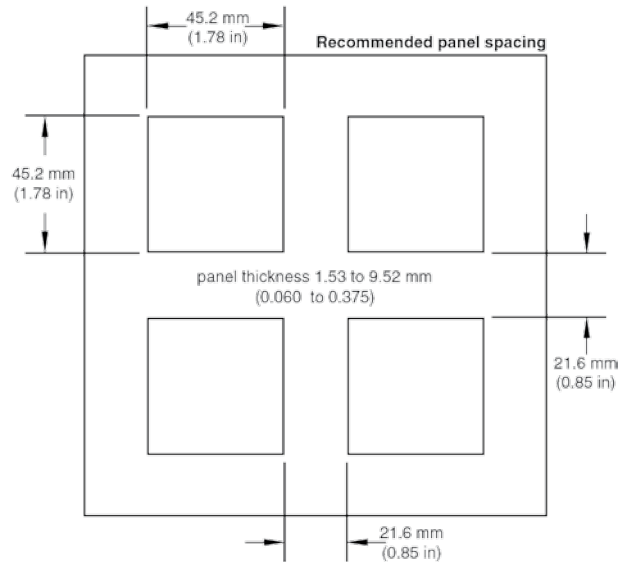

FIGURE 1 - CONTROLLER PANEL LAYOUT
1. Make the panel cutout using the mounting template dimensions shown in **Figure 1**.